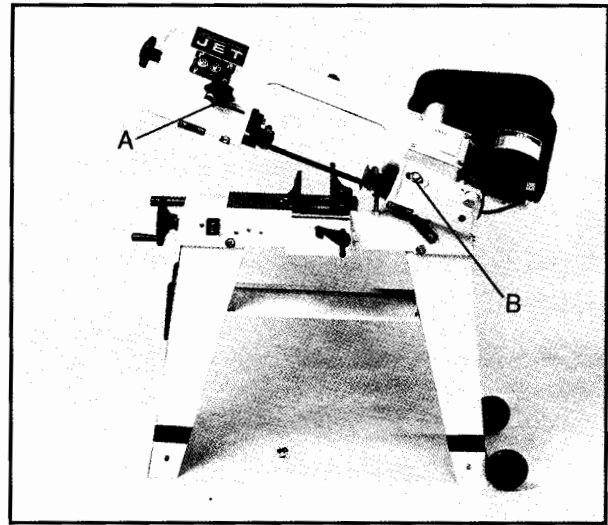

Fig. 9
2. Loosen knob (A, Fig. 9). Slide blade guide assembly as close as possible without interference to the material being cut.